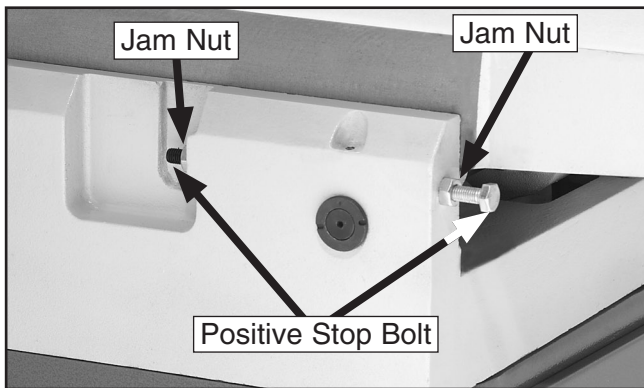

Figure 47. Table positive stop bolts.
3. Loosen the outfeed table lock located at the front of the machine, and loosen the jam nuts and positive stop bolts located at the back of the machine (see **Figure 47**).
4. Loosen the outfeed table lock located at the front of the machine, and loosen the jam nuts and positive stop bolts located at the back of the machine (see **Figure 47**).
- Tighten the outfeed table lock located at the front of the machine, and tighten the positive stop bolts and jam nuts located at the back of the machine (see **Figure 47**).